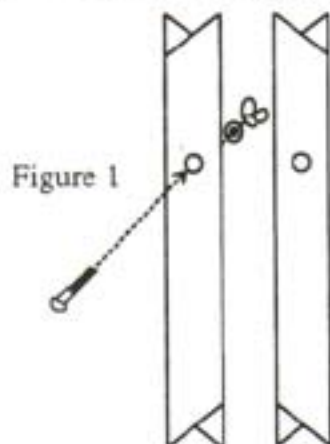

Figure 1
1) Take the four tables legs and make two sets as shown in figure 1. Insert carriage bolts through the holes in the legs and secure with a flat washer and wingnut. Make sure the two leg assembly are mirror images of one another as shown.